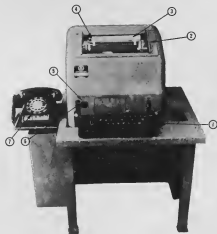

Figure 1
The numbers with the following items refer to the corresponding numbers on the illustration in Figure 1.
2. **Paper Release Lever.** (Located inside cover as illustrated in Figure 1.) When pushed back, frees the paper for adjustment. When pulled forward, holds paper tight.